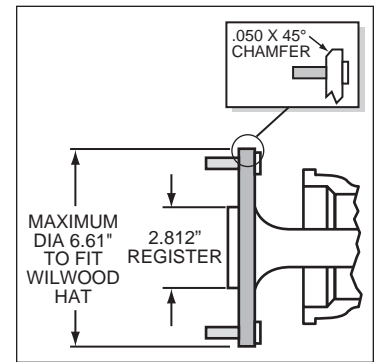

Figure 3. Axle Flange Maximum Dimension
- Axle center register diameter is 2.812", Figure 3
- Maximum axle flange diameter must be no larger than 6.61" w/.050" x 45° chamfer, Figure 3.